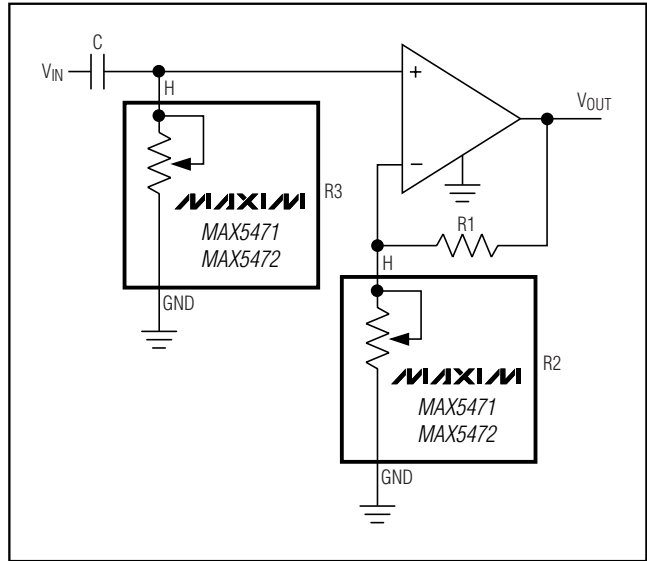

Figure 6. Programmable Filter
Figure 6 shows the configuration of a 1st-order programmable filter. The gain of the filter is adjusted by  $R_2$ , and the cutoff frequency is adjusted by  $R_3$ . Use the following equations to calculate the gain (G) and the 3dB cutoff frequency ( $f_c$ ):